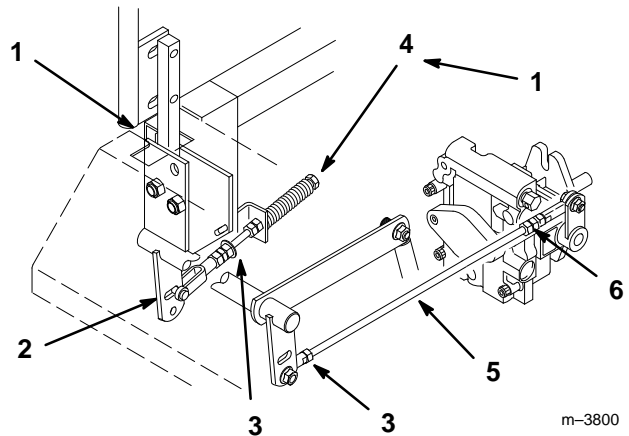

Figure 30
2. Begin with either the left or right motion control lever. Move lever to the neutral position and pull lever back until the clevis pin (on arm below pivot shaft) contacts the end of the slot (just beginning to put pressure on spring) (Fig. 30).
3. Check where lever is relative to notch in console (should be centered allowing lever to pivot outward to the neutral lock position) (Fig. 30).
11. Loosen locknut at ball joint on pump control rod (Fig. 30).
12. Adjust pump rod length by rotating double nuts on rod, in the appropriate direction, until wheel is still or slightly creeps in reverse (Fig. 30).